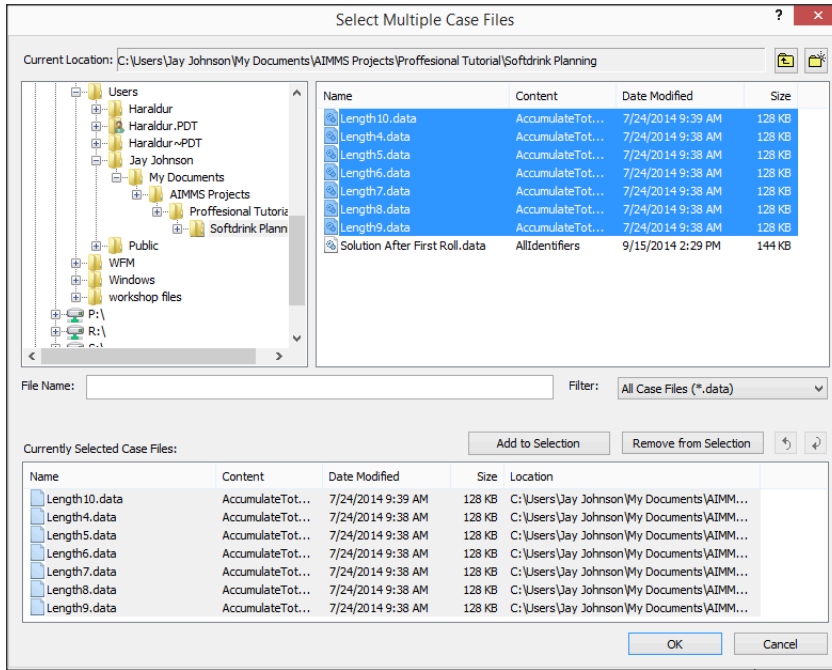

Figure 14.10: The **Select Multiple Cases** dialog box
- ▶ press the **Add to Selection** button to transfer the selected cases to the right list-box (see Figure 14.10), and